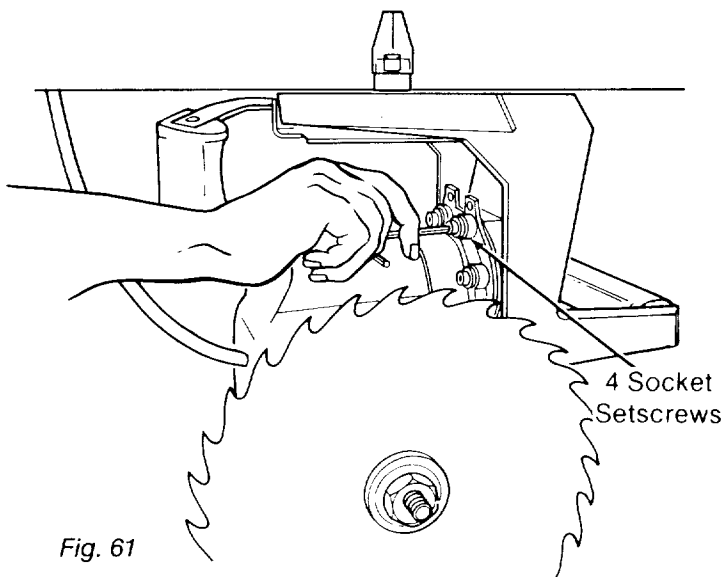

Fig. 61
9. Loosen the four screws behind the *yoke* using a 3/16 inch hex-L wrench. (Figure 61)